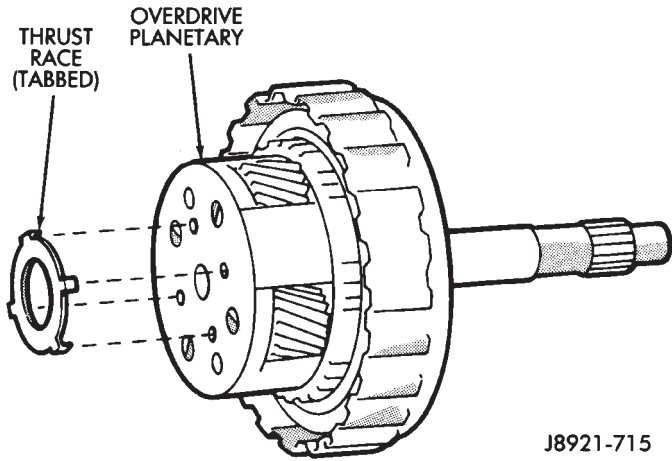

Fig. 167 Installing Planetary thrust Race
(68) Coat tabbed thrust race with petroleum jelly and install it on planetary gear (Fig. 167). Race outer